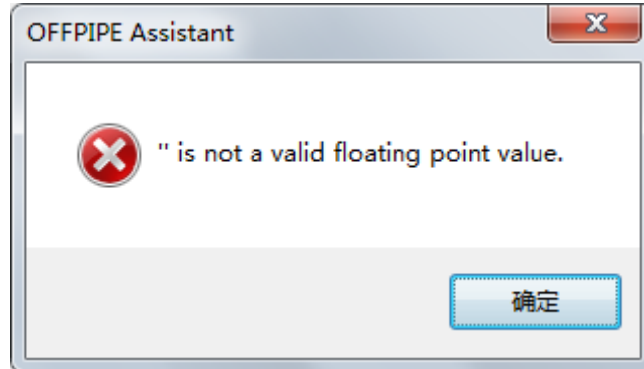

Fig. 5.1 Fault message window
1. A message window as Fig. 5.1 shows.